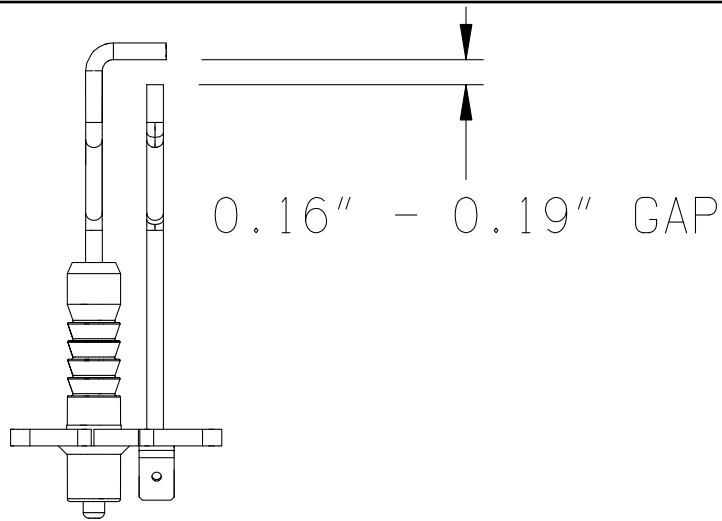

FIGURE 13.2: IGNITION ELECTRODE GAP
- n. **Inspect the ignition electrode and flame rod** for deposits. Clean any found with steel wool. Do not use sand paper or Emory cloth for this cleaning. Inspect the ceramic portion of both of these parts for cracks and replace if any are found. Verify that the ignition electrode gap is within the range shown in Figure 13.2